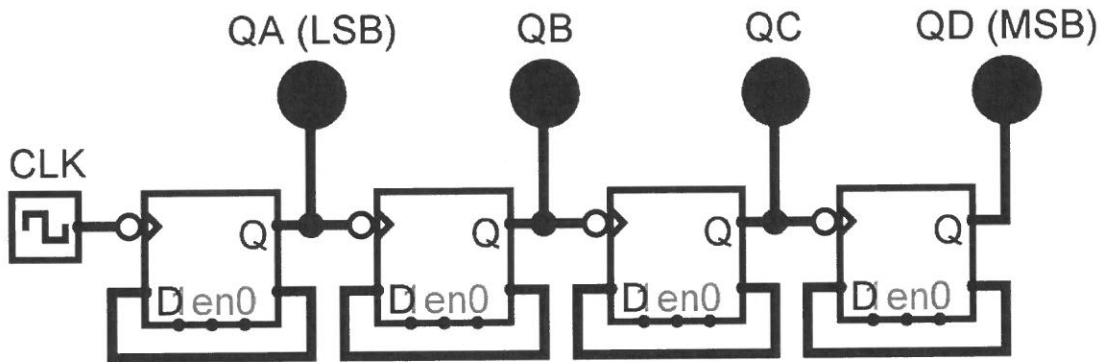

Figure 2(a)
- (a) Table 2(a) shows a portion of a dual negative edge-triggered D flip-flops (DM7474) datasheet. Figure 2(a) shows the logic circuit diagram of an asynchronous counter, which uses negative edge-triggered D flip-flops with labelling of $Q_A Q_B Q_C Q_D$ where Q_D is MSB and Q_A is LSB. Assume the environment is at $T_A = 25^\circ C$ with voltage supply, $V_{CC} = 5V$.
- (i) Analyse its operation to determine whether the logic circuit of Figure 2(a) is working as an up counter or down counter. Also, state the modulus and function of this counter. (4 marks)
- (iv) Determine the output timing diagram of Figure 2(a) with proper labelling for this counter. (4 marks)